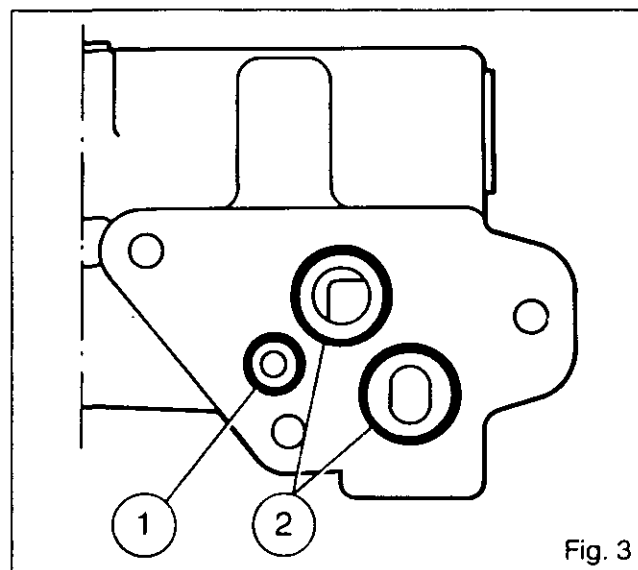

Fig. 3
4. Replace the O-rings (1) and (2) (Fig. 3).
5. Refit the valve, fit and tighten the screws (5) to a torque of 21 - 24 Nm.
6. **Reconnect** : The tube (3) of the trailer brake connector, the supply hose (8) of the spool valve and the hose (7) of the pilot housing.